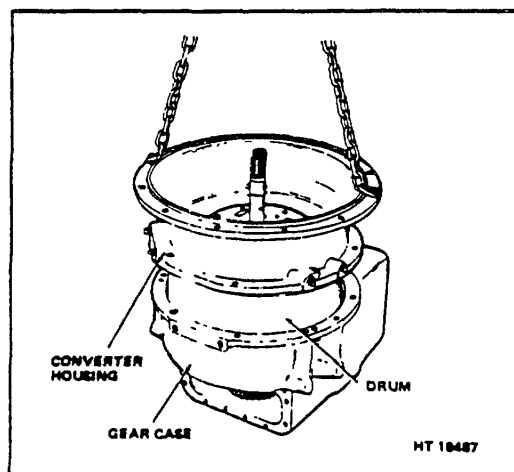

Figure 1-5. Removing Housing and Drum
- Lay the transmission on the gear case side as shown in Figure 1-5. Remove capscrews which mount the converter housing to the gear case. Then, attach